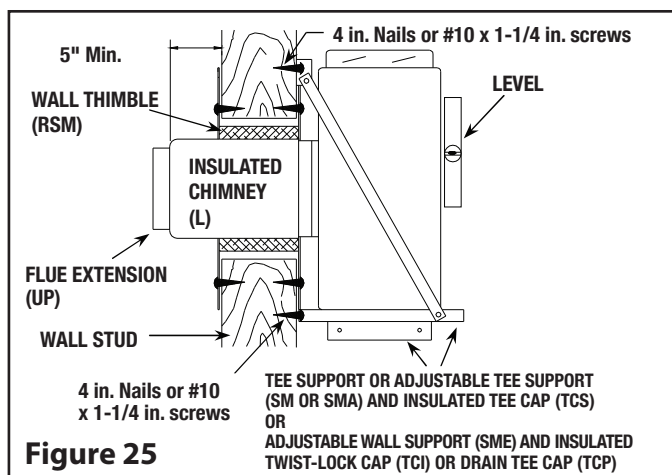

Figure 25
Step 4. This step will require 2 people: (see Figure 25). Insert the chimney length of this tee-support assembly into the hole in the wall. Using a level, ensure the tee is vertical, then attach the support to the wall using (8) N°. 10 x 1 - 1/4" wood screws or 4" spiral nails.
Step 6. Attach the flue extension to the horizontal chimney length using the three metal screws provided (see Figure 25).